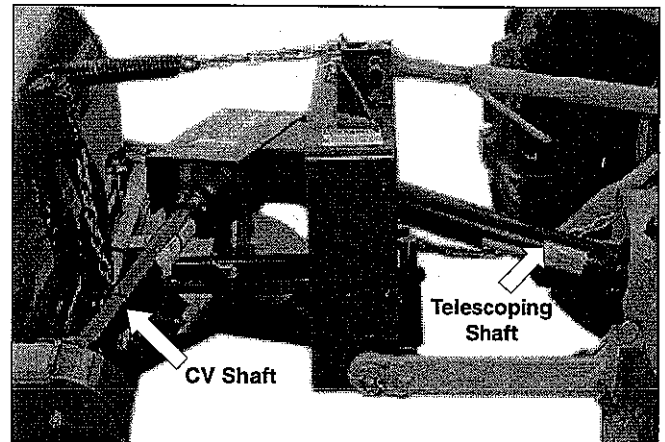

figure 9
13. Install the constant velocity (CV) shaft. Figure 9 shows the shaft fully installed.
14. Install the telescoping shaft. Figure 9 shows the shaft fully installed.